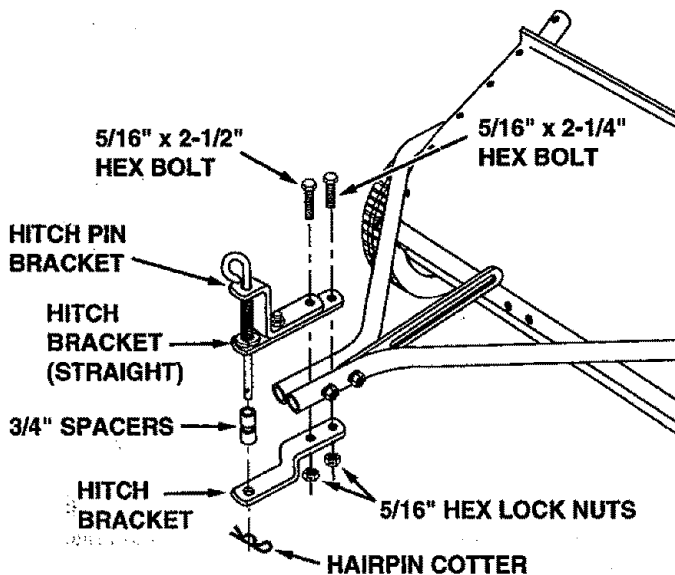

FIGURE 5
- Place the bent hitch bracket underneath the hitch tubes and place the straight hitch bracket with hitch pin on top of the hitch tubes. Fasten together using a 5/16" x 2-1/2" hex bolt (front), a 5/16" x 2-1/4" hex bolt (rear) and two 5/16" hex lock nuts as shown in figure 5. The bolts should straddle the front hitch tube bolt. **Do not tighten yet.**
- Assemble the two 3/4" spacers onto the hitch pin and secure the pin with the 1/8" hairpin cotter. See figure 5.